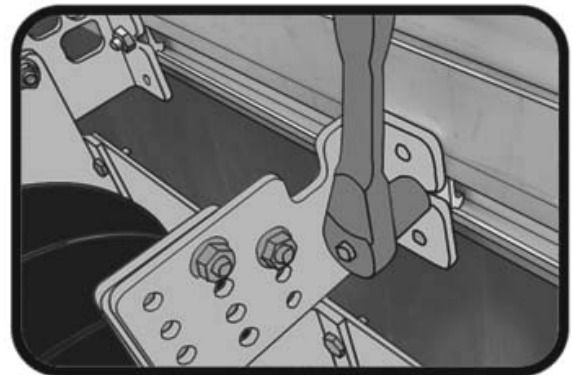

Fig. 3
Step 1: Access the mechanism motor end. Release the front (*pool-side*) and back Motor Mounting Brackets (*the two nearest the motor only*), either by loosening the bolt or removing the screw, depending upon the application. (**Fig. 3**) **NOTE: If necessary, use a rope and small board to tie the motor and keep it level during the procedure.**